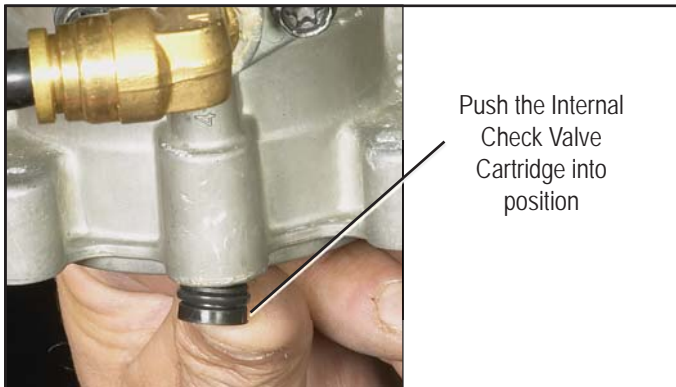
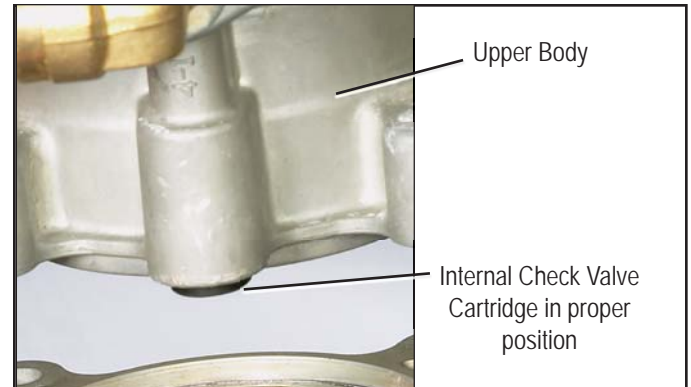

Figure 7 - *CARTRIDGE INSTALLATION*
Figure 8 - *PROPER CARTRIDGE INSTALLATION*
- Insert the replacement cartridge in the bore where the check valve, spring and plastic guide were removed. Note: Be sure to remove the replacement cartridge from its shipping tube prior to installation. Push the cartridge into position until it stops as shown in Figure 7. A portion of the plastic guide in the cartridge will stick out as shown in Figure 8. **DO NOT FORCE THE CARTRIDGE FURTHER INTO THE BORE.**